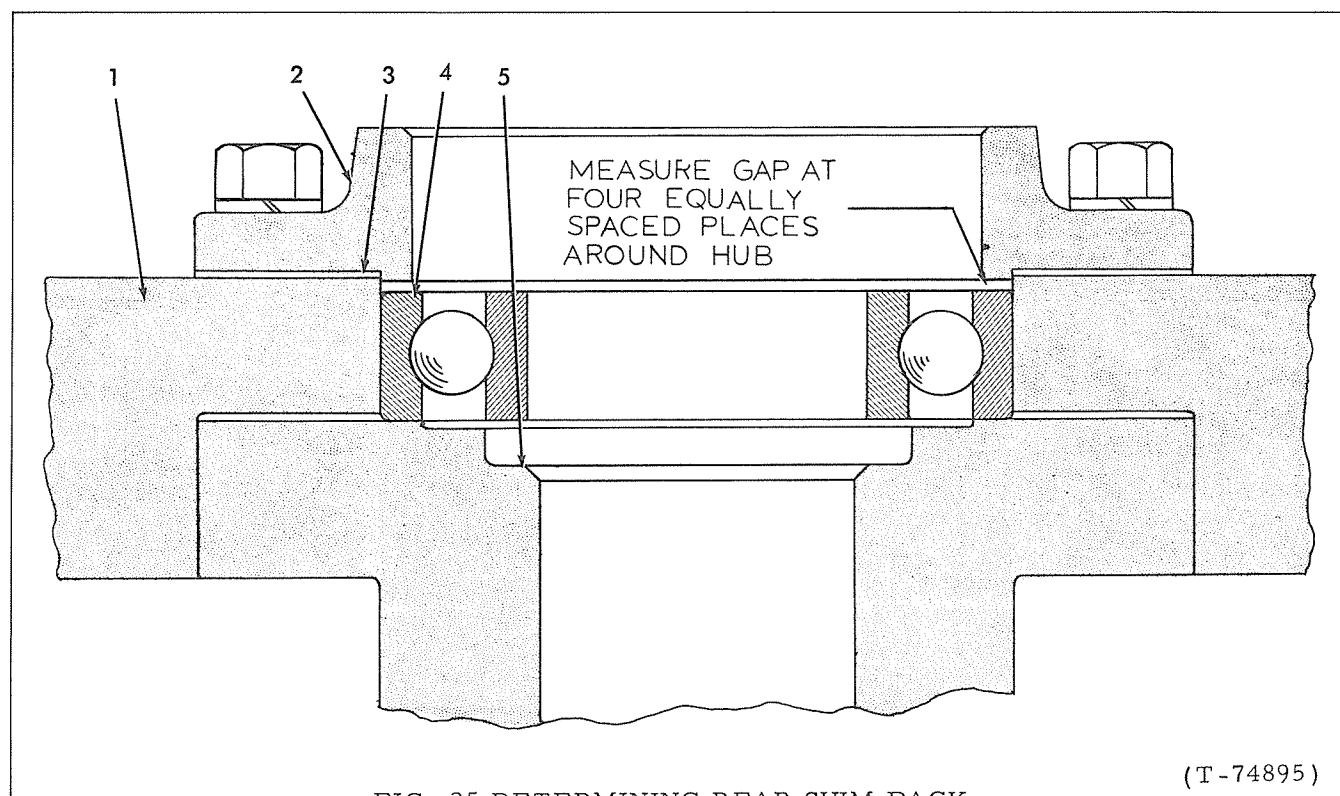

FIG. 25 DETERMINING REAR SHIM PACK THICKNESS
- c. Measure gap between bearing and retainer, Fig. 25, at four equally spaced places; make shim pack equal to measurement minus .002" (0.050mm) to obtain specified gap of .000"-.004" (0-0.101mm).